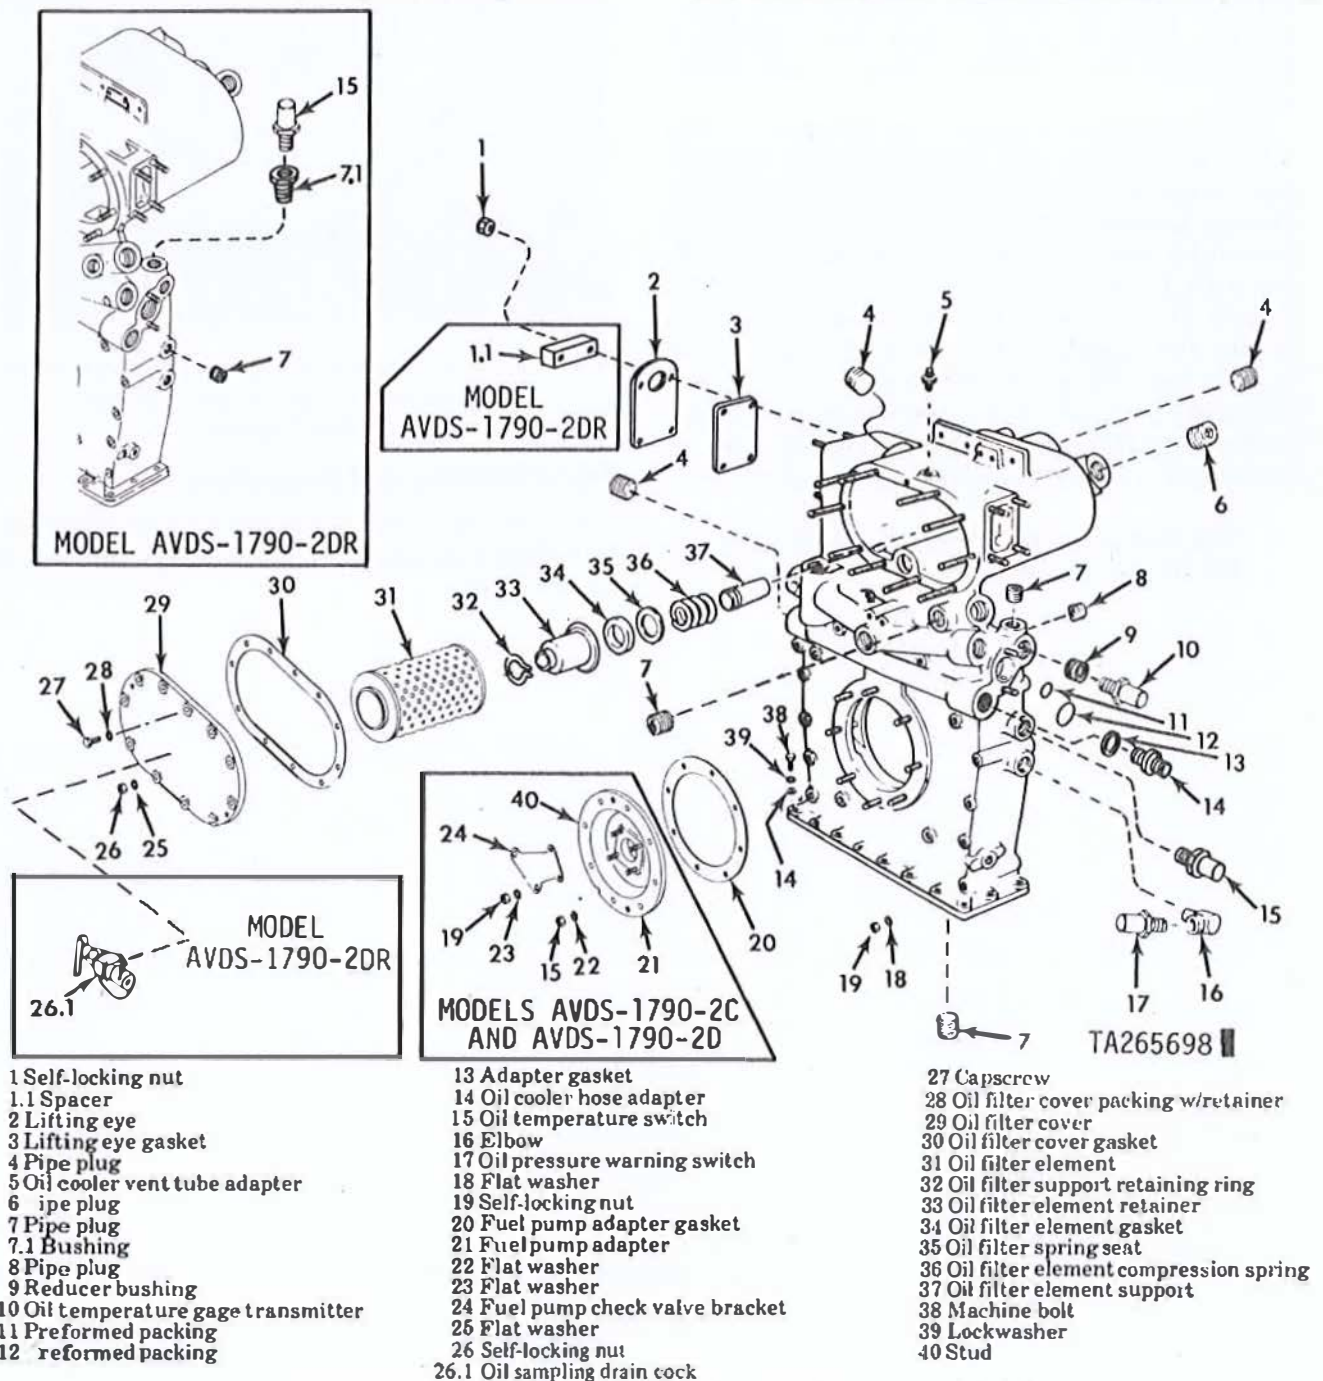

Figure 3-207. Damper housing oil filter and associated parts — exploded view.
c. Remove oil drain valve adapter (25) and oil drain valve adapter gasket (24). Discard gasket. Remove damper housing oil drain valve (23). Remove and discard preformed packing (22).
d. Remove oil filter cover air bleed hole capscrew (27, fig. 3-207) and packing (28). Discard packing.
f. Remove four oil cooler hose adapters (14, fig. 3-207) and gaskets (13). Discard gaskets. Remove pipe plugs (4, 6, 7, 8). Remove and discard pre-formed packings (11) and (12). Remove oil cooler vent tube adapter (6). Remove oil pressure warning switch (17), elbow (16) and oil temperature switch (15). Remove four self-locking nuts (1) spacer (1.1, model AVDS-1790-2DR engine), and remove two lifting eyes (2). Remove and discard lifting eye gasket (3). Remove oil temperature gage transmitter (10) and reducer bushing (9). Remove bushing (7.1, model AVDS-1790-2DR engine).
a. Install lifting eye gasket (3, fig. 3-207), two lifting eyes (2), spacer (1.1, model AVDS-1790-2DR engine), and secure with four self-locking nuts (1). Install oil temperature transmitter (15) and oil temperature warning switch elbow (16) and switch (17). Install bushing (7.1, model AVDS-1790-2DR